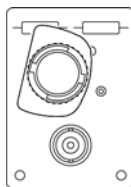

Figure 15 Signal to +Input
- 2 Carefully connect the input of the probe/attenuator to the test board in the position shown in Figure 15.